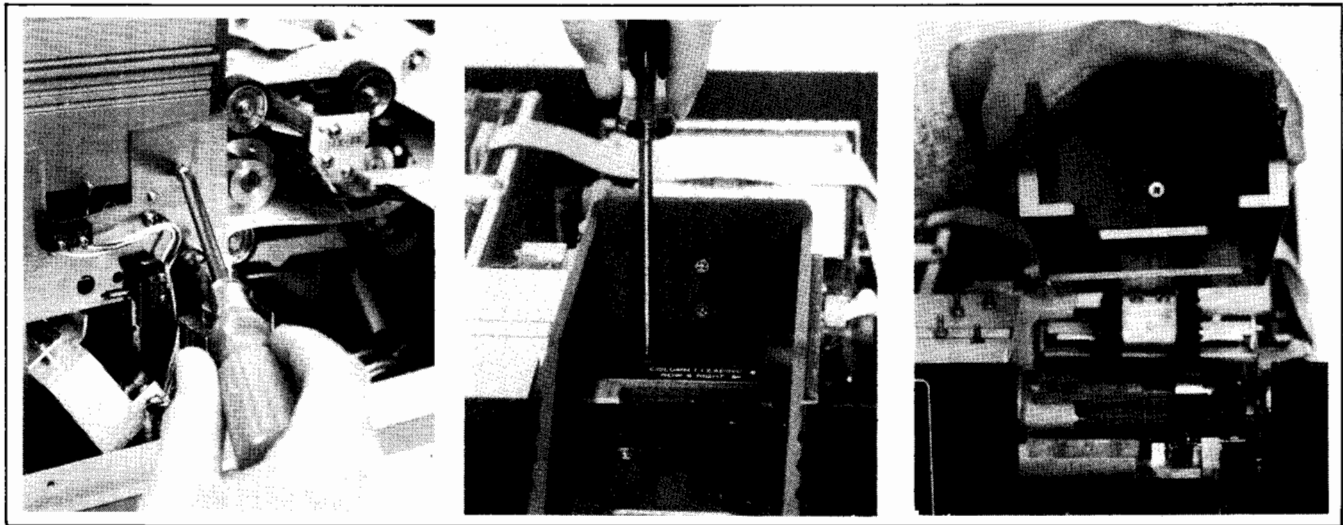

Figure 5-3. Input Hopper Removal/Replacement
- b. Remove two screws from right side plate. See Figure 5-3.
- c. Remove two screws inside hopper. See Figure 5-3.
- d. Remove hopper. See Figure 5-3.